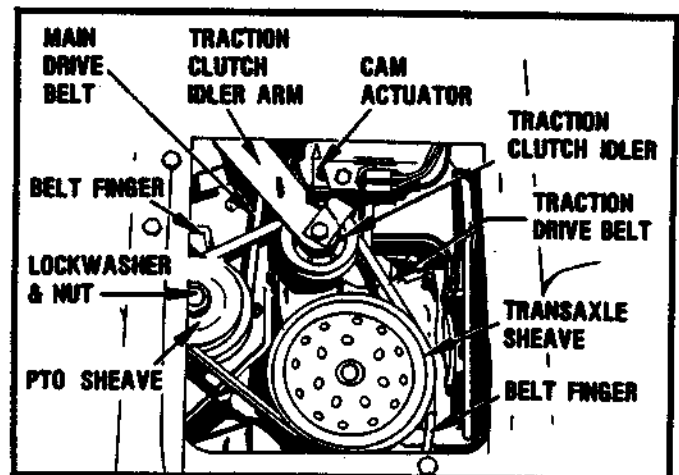

FIGURE 17
- Loosen fasteners holding two belt fingers around traction drive belt to frame, and rotate fingers away from belt. See Figure 17.
- Depress Clutch Pedal with left foot and unwrap traction drive belt from transaxle and upper groove of top PTO sheave. See Figure 17.
- Release clutch, disconnect traction clutch spring from traction clutch idler arm. (Use vise grips). See Figure 17.
- Rotate attachment idler until hair pin at top of idler assembly pivot pin can be removed rearward. See Figure 17.
9. Wrap main drive belt around lower (larger groove on top PTO sheave.) See Figure 17.
12. Grasp traction clutch idler spring with vise grips and connect hook to traction clutch idler arm. See Figure 17.
13. Depress traction clutch pedal and wrap traction drive belt around upper groove on PTO sheave and transaxle sheave. DO NOT PRY. See Figure 17.
TRACTION DRIVE BELT REPLACEMENT — FIGURE 17